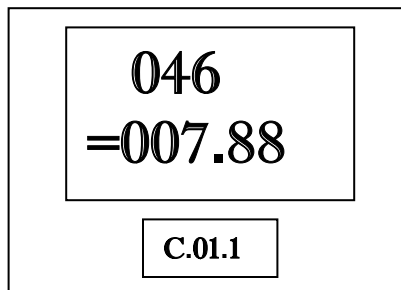

Figure 50
1. Press the number 1 button and then the **MODE** button on the keypad. The main sales display appears similar to Figure 50.
The main display shows the total money amount. For example: If the total money amount for the dispenser is \$46,007.88, the display appears as in Figure 50.